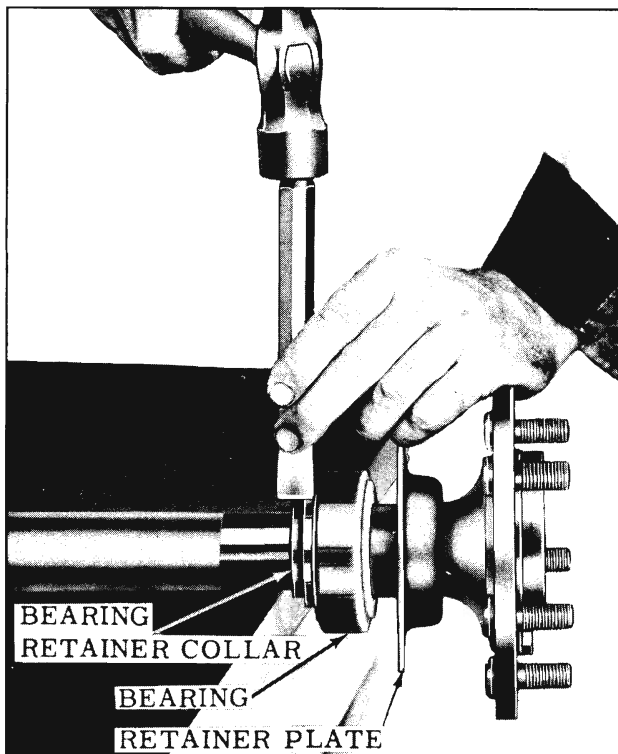

Fig. 5-37 Removing Bearing Retainer
1. With axle shaft removed, remove bearing retainer collar after splitting with cold chisel as shown in Fig. 5-37. Do not damage axle shaft.